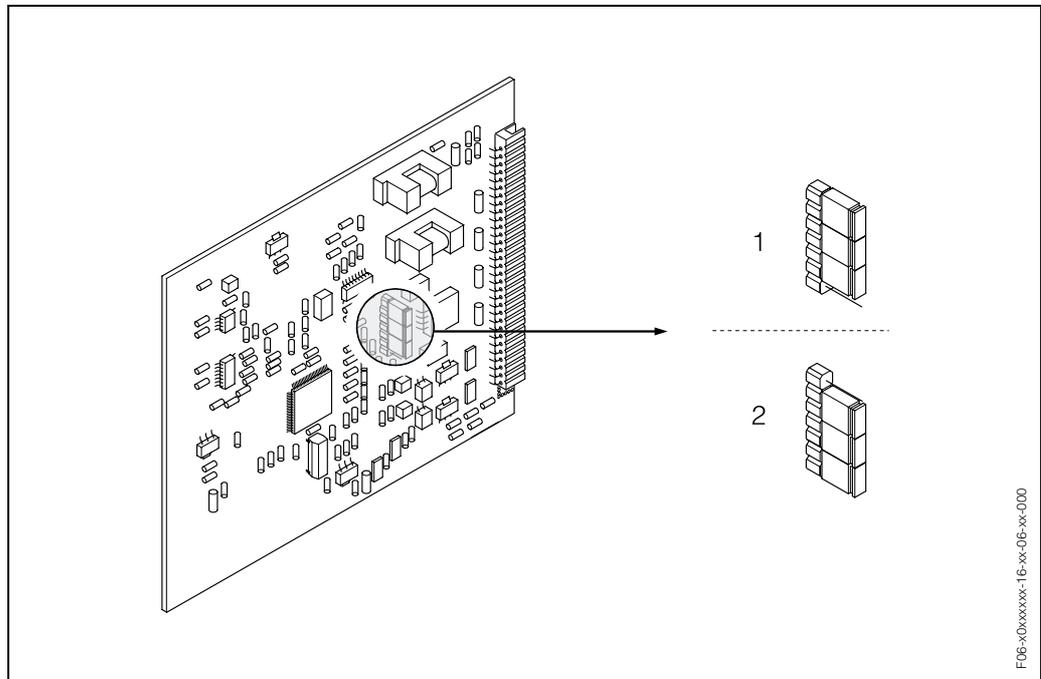

Fig. 25: Configuring the current output (I/O board)
3. Set the jumpers in accordance with Fig. 25.
Risk of destroying the measuring device. Set the jumpers exactly as shown in Fig. 25. Incorrectly set jumpers can cause overcurrents that would destroy either the measuring device or external devices connected to it.